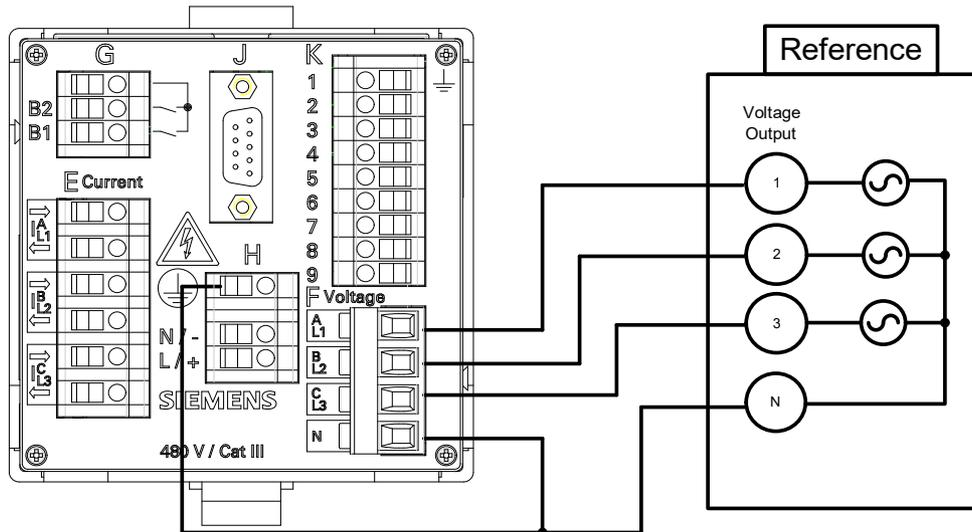

Figure 11-1 Measurement Setup for Calibrating the AC Voltage Measuring Range
Calibration is only possible with symmetrical phases ($3 \times 120^\circ$), see Figure 11-1.
- ◊ Set up the measurement as shown in Figure 11-1, depending on the device variant.